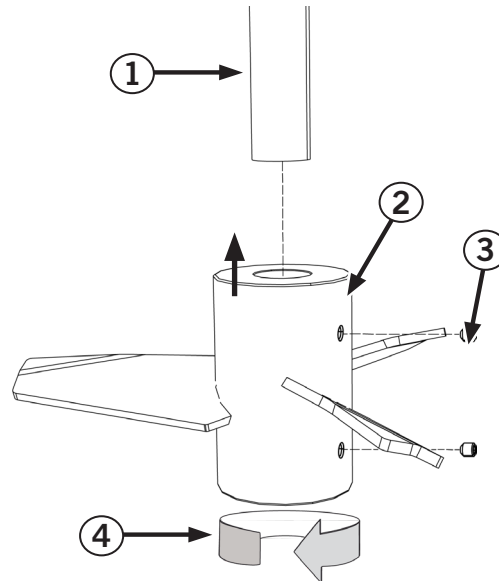

Figure 11. High-Efficiency Impeller
It is important to install the High-Efficiency Impeller (HEI) blades in a specific orientation, see rotation (4) in Figure 11. High-Efficiency Impeller below.